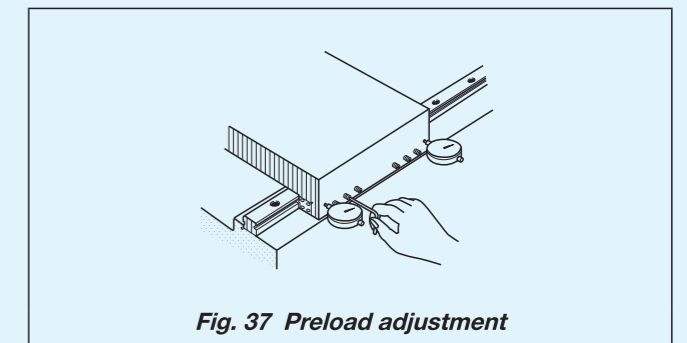

Fig. 37 Preload adjustment
- As indicated in Fig. 37, tighten the preload adjusting screw at the center first and then all the rest preload adjusting screws in order while measuring the clearance by using the dial gauge.